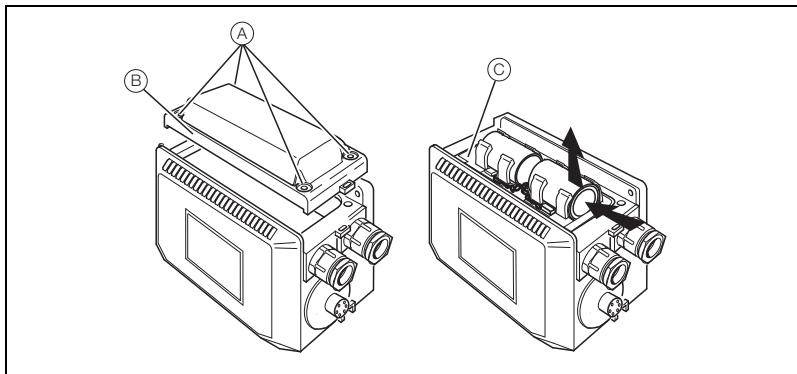

Fig. 4.7 Removing the AquaMaster Cover
2. Disconnect and withdraw the sensor cable (A).
3. Remove and discard the gland (B).
4. Feed the socket lead into the AquaMaster and fit the socket (MGFA0609-S) (C).
5. Connect the sensor cable (D).
6. Replace the covers – see Fig. 4.7, page 17.
2. Disconnect and withdraw the pulsed output cable (A).
4. Feed the socket lead into the AquaMaster and fit the socket (MGFA0609-O) (C).